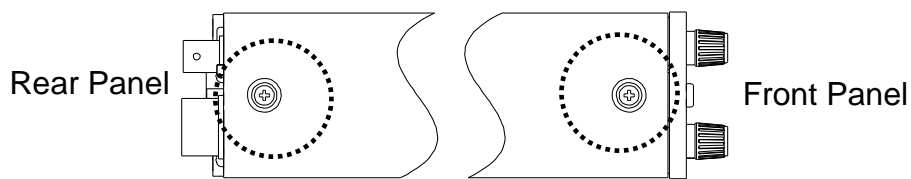

Fig. 7-6
2. Remove the cover using two screws (M3) on the top face (Fig. 7-6).